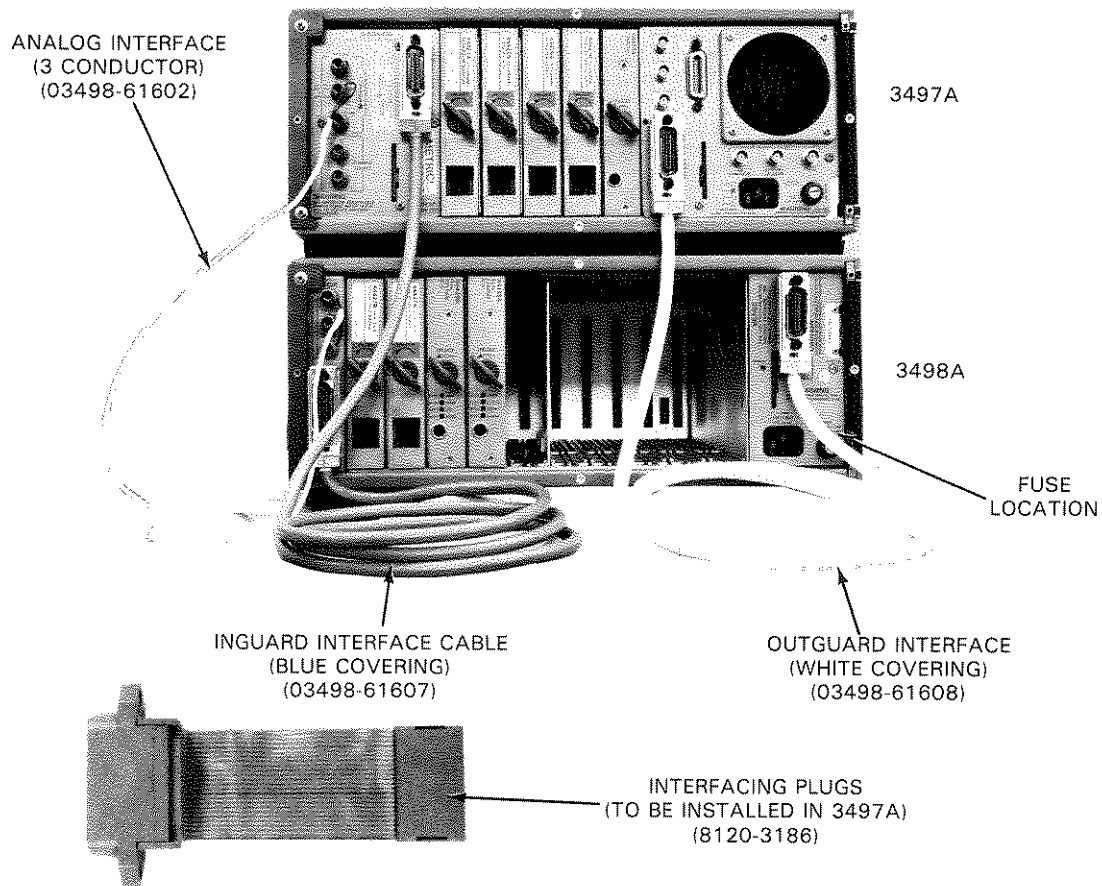

Figure 172. Option 298 - 3498A Extender and Accessories Supplied
Whether you ordered the 3498A Extender as Option 298 to the 3497A or as a separate item, the shipping container should contain the items shown in Figure 172. If any item is missing or if there is mechanical damage or defect to the instrument, contact your nearest -hp- Sales/Service office. They will arrange for replacement or repair at -hp- option.
3. Check the fuse for proper type (1.25A for 100V or 120V operation; 2.5A for 220V or 240V operation). The fuse is located in the fuseholder on the right rear panel of the instrument as shown in Figure 172.
As noted, you can use up to 13 3498As per 3497A. If you ordered the 3498A as Option 298, you can directly connect the three cables supplied with the 3498A (see Figure 172) to interface the 3498A with the 3497A, as shown in Figure 176.
If you ordered the 3498A as a separate instrument AND did not order the 3497A with Option 298, you will need to install the two interfacing plugs shipped with the 3498A (see Figure 172) into the 3497A before you can follow the interconnection sequence shown previously.